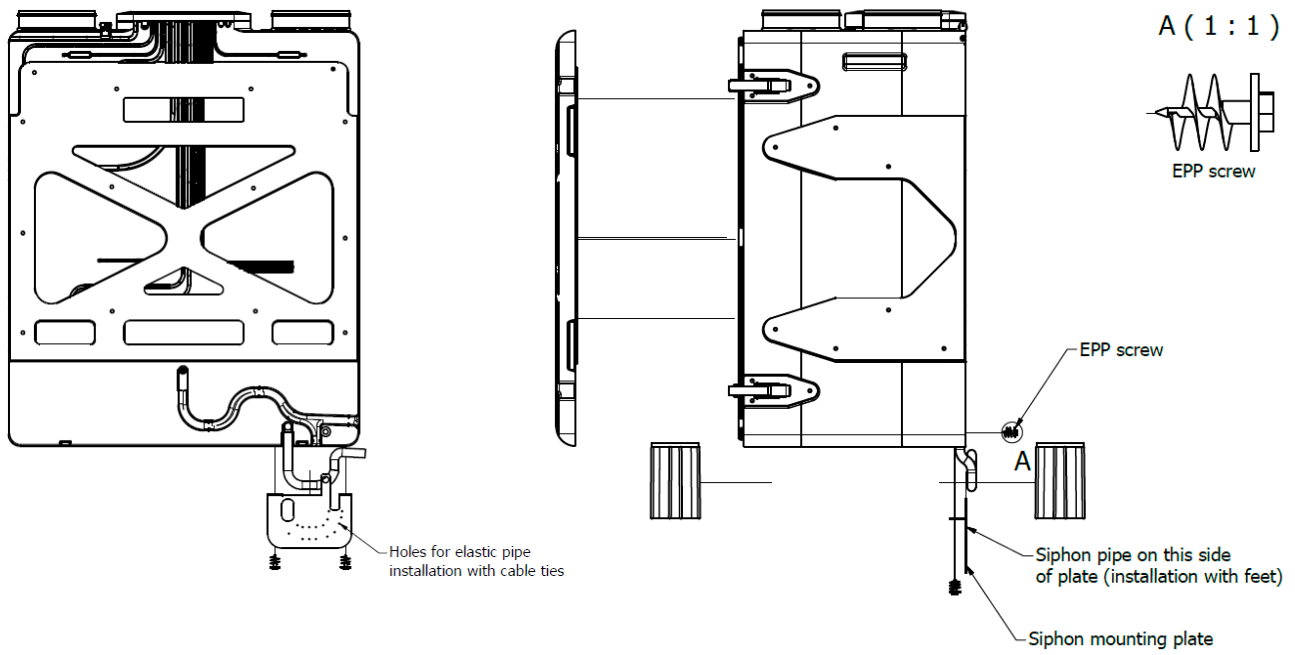

Figure 8 – siphon mounting plate installation
- Install siphon mounting plate with 3 EPP screws (figure 8)